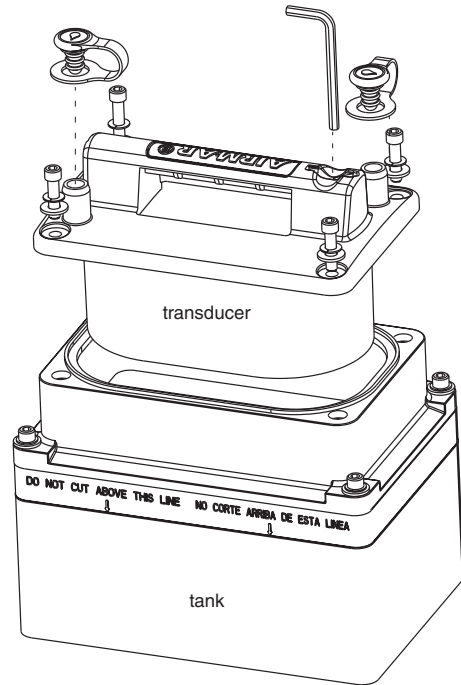

Figure 1. Exploded view
1. The tank can be disassembled for installation in tight places. *Do not disassemble the tank unless it is necessary.* If the tank will be installed as one unit, lightly tighten the socket-head cap screws that hold the two halves of the tank together using the Allen wrench supplied (see Figure 1). (Use a blade screwdriver to remove the Allen wrench from the handle of the transducer. After use, replace the Allen wrench in the recess.)